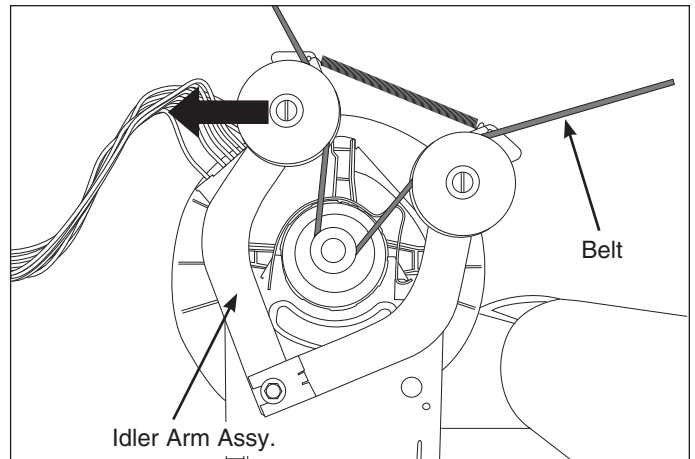

Figure 4-28.
2. From the rear of the unit, reach under the drum and pull the idler arm assembly to the left and release the belt from the roller guides and motor pulley. (See Figure 4-28)